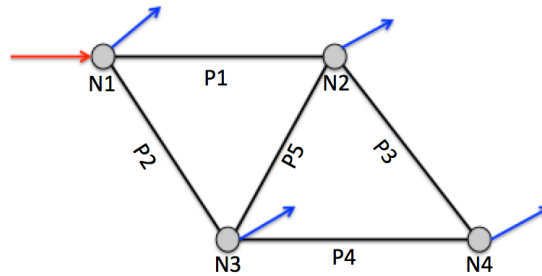

Figure 1: Layout of Simple Network
- Figure 1 is a five-pipe network with a water supply source (a reservoir, not shown) connected at Node 1, and demands at Nodes 1-5. Table 1 is a list of the relevant pipe and node data.